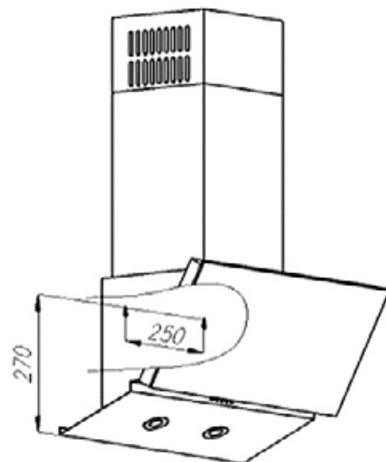

Fig. 4
7. Fix the unit to the wall using the wall plugs and screws (Fig. 4).